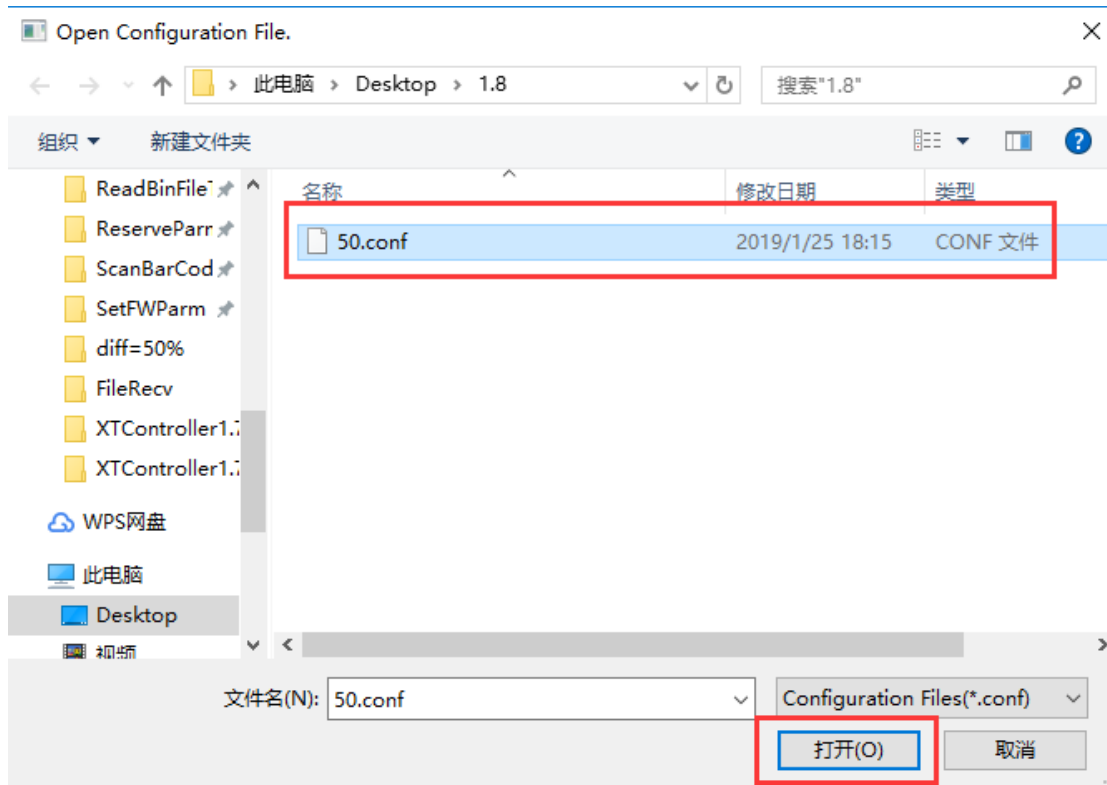
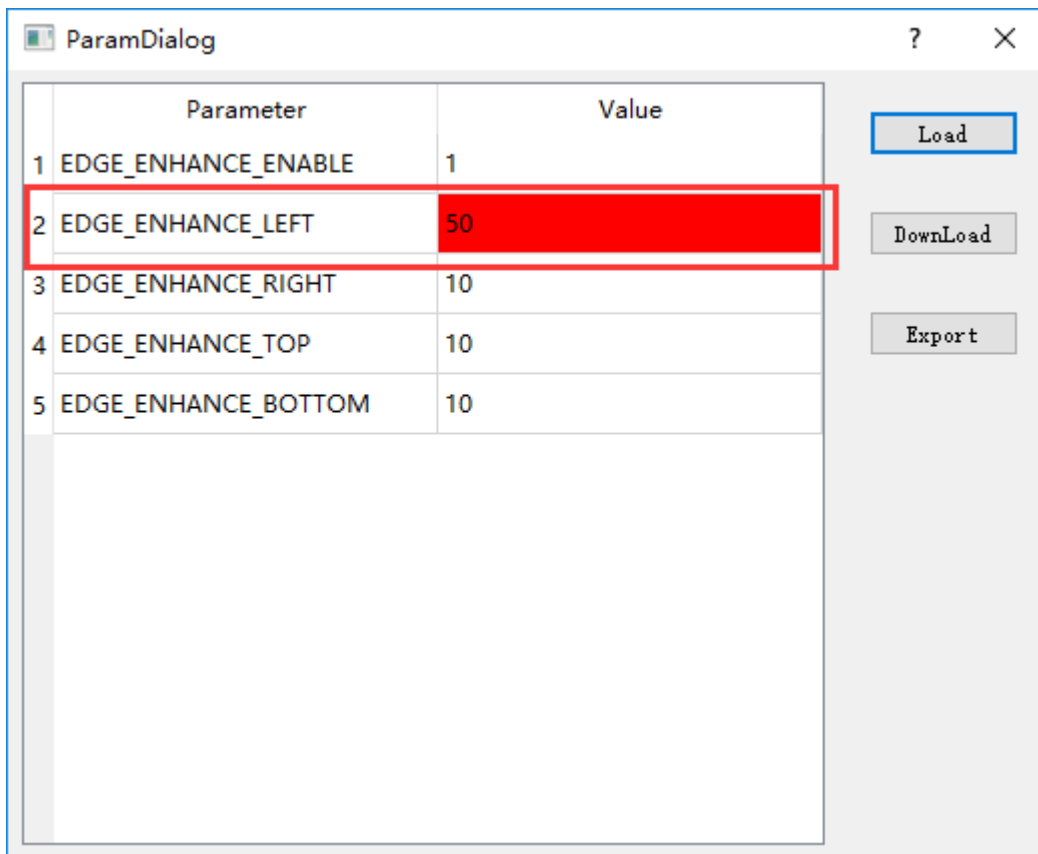

Figure 11. Load configuration file
Figure 12. Configuration file loaded successfully
(1) Click "Load" to load the configuration file. Select the file and click Open, as shown in Figure 11. After successful loading, the parameters that changed will be marked in red, as shown in Figure 12.
(2) Click "Download" to save the parameters in configuration file, and the red mark disappears means the parameters saved successfully.